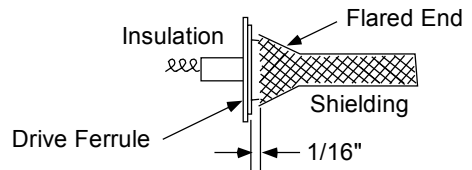

Figure 3.4.1B
- 2. Slide ferrule taper over silicone insulation and under shielding until ferrule flange is 1/16" from shielding (See Figure 3.4.1B).